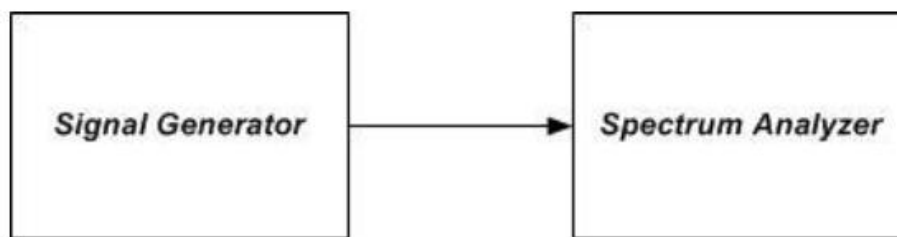

Figure 10 – Test setup for measuring characteristics of test signals used for subsequent EUT occupied bandwidth testing
- Connect the test equipment as shown in Figure 10 to firstly measure the characteristics of the test signals produced by the signal generator.
- Connect the test equipment as shown in Figure 10, with the uplink output (donor) port connected to the spectrum analyzer, and the server port connected to the signal generator.
- Connect the test equipment as shown in Figure 10, with the downlink output (server) port connected to the spectrum analyzer, and the donor port connected to the signal generator.